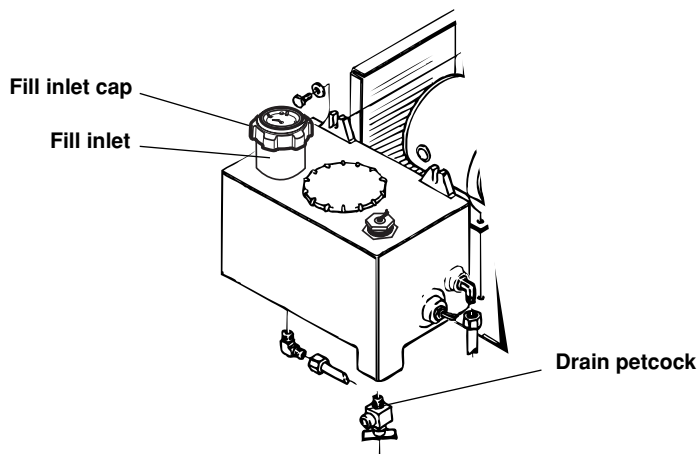

Figure 8-8 Coolant Tank Reservoir Drain Petcock Location
3. Drain the power supply reservoir by opening the petcock on the bottom of the reservoir tank. Close petcock after coolant is drained. See Fig. 8-8. On older systems, there is either no petcock, or the petcock is in a different position than the one shown in the figure below. Siphon coolant out of the tank through the fill inlet if there is no petcock.